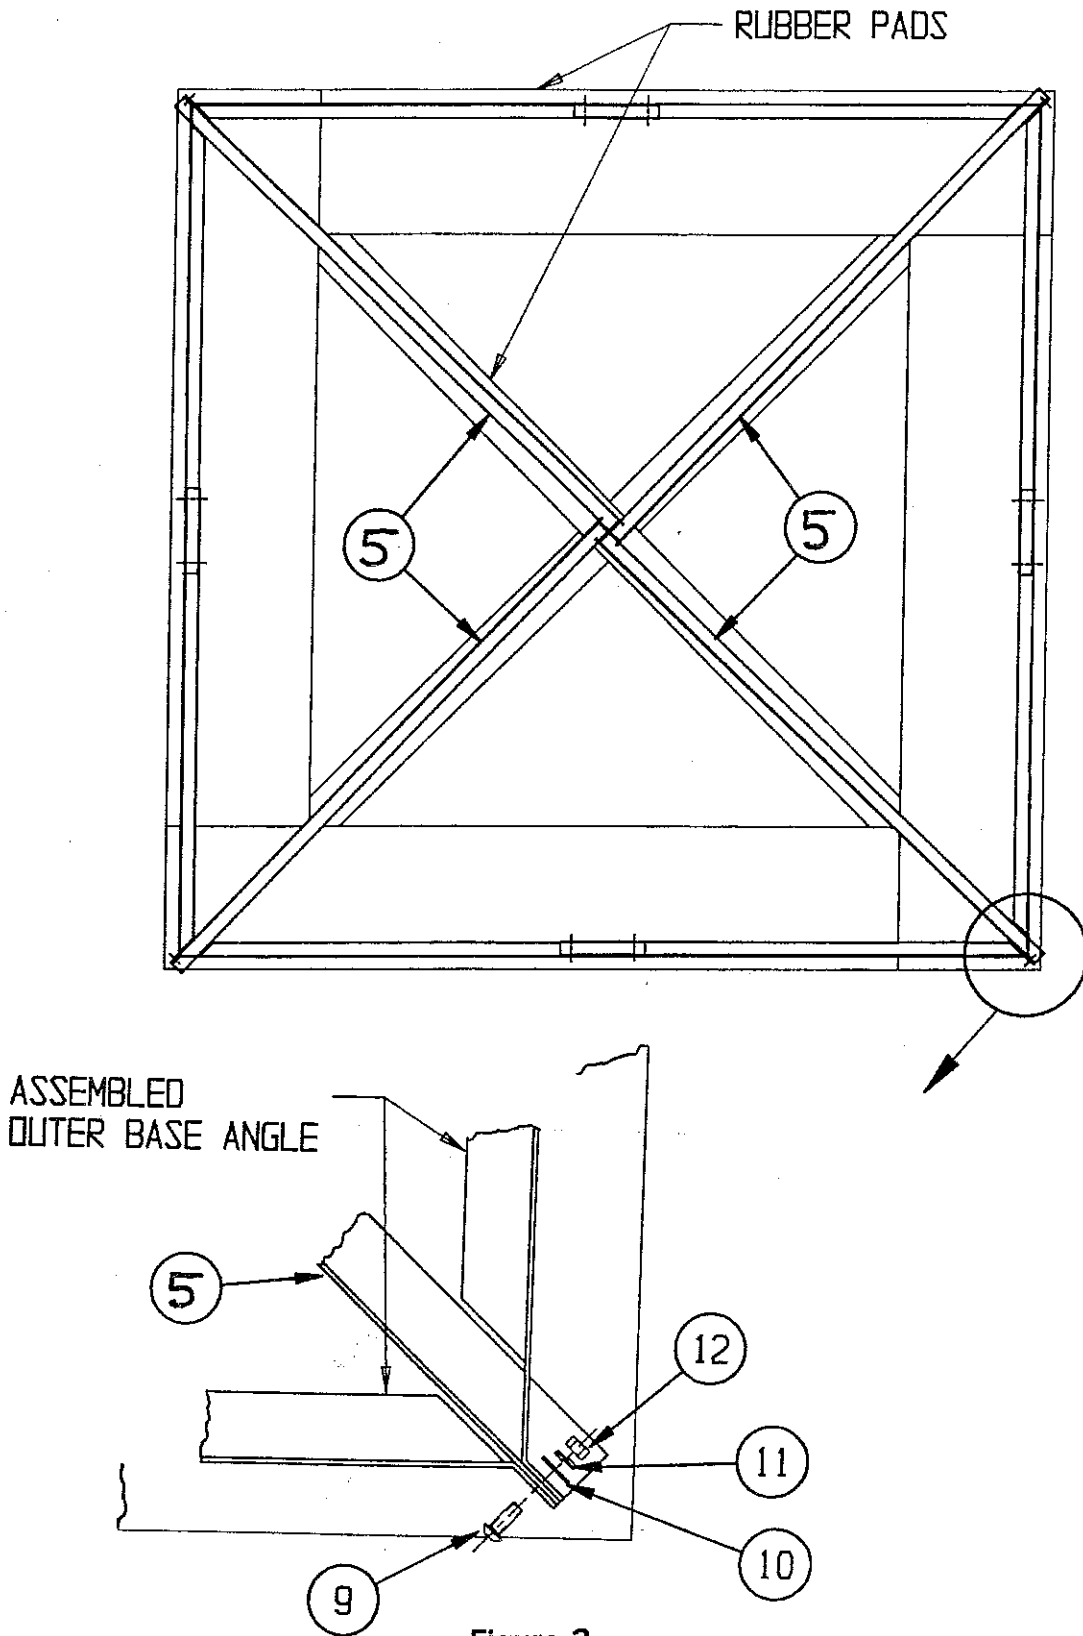

Figure 3
- STEP 4: Layout the (4) outer base angles (assembled in step 3) and the (4) diagonal base angles (item #5) as shown in Figure 3. Attach the outer corners as shown using a 3/8" carriage bolt, flatwasher, lockwasher, and hex nut (items 9, 10, 11, & 12). Snug only.